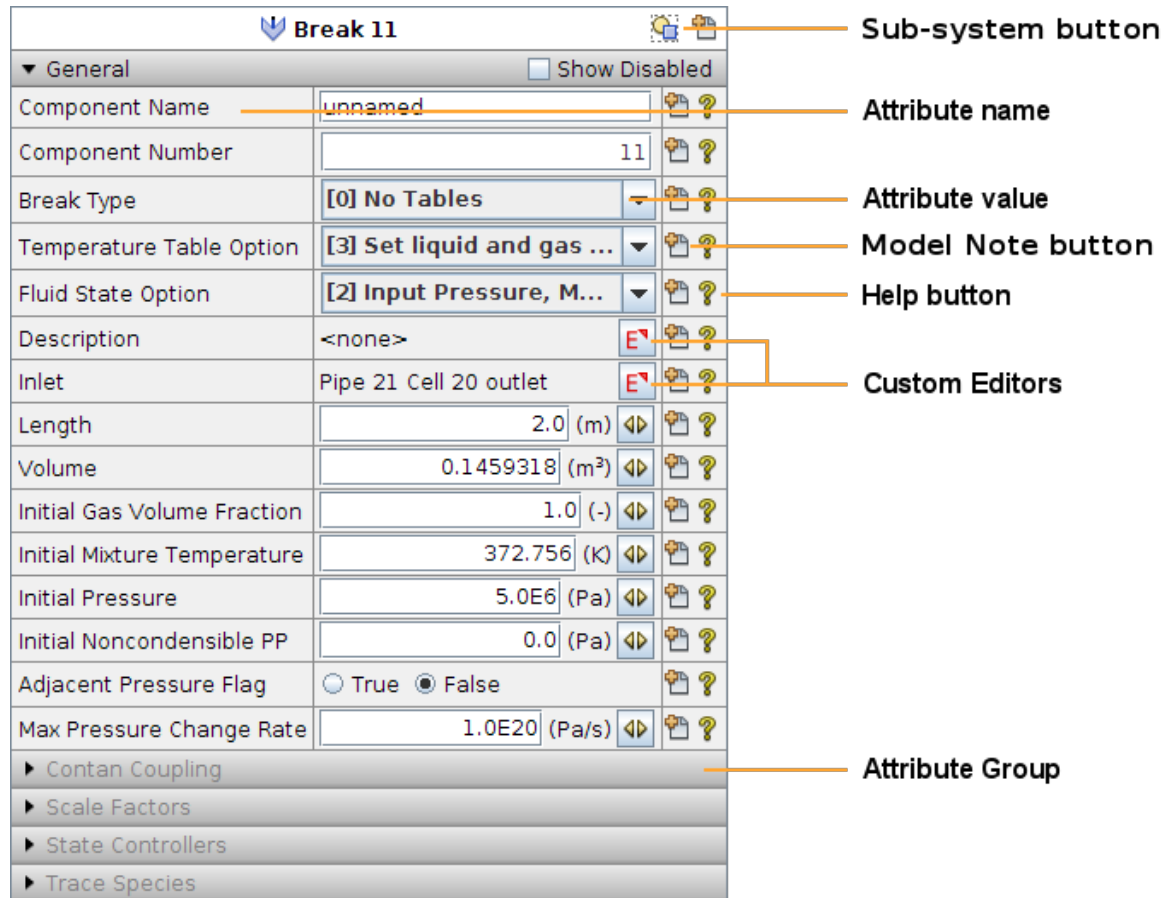

Figure 2.5. Example Property View
The Main Property View, shown in Figure 2.5, “Example Property View”, provides the central point for viewing and editing properties of model components, Display Beans, etc.. It displays the properties of the current selection from either the Navigator or a 2D View. Changes to these properties will immediately be reflected in all other open views (2D, ASCII, Property, etc.). An example of a Property View is shown in Figure 2.5, “Example Property View”.
Show Disabled Check Box - This check box (shown in Figure 2.5, “Example Property View”) is used to activate the display of disabled properties in each of the attribute groups. The **Show Disabled** check box always appears in the title area for the **General** attribute group.
- **Properties** - This item opens a separate property view for the selected object. This separate property view is functionally equivalent to the main property view shown in Figure 2.5, “Example Property View”.